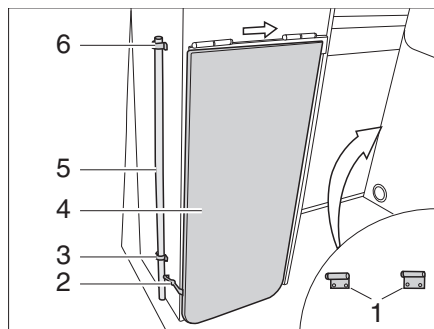
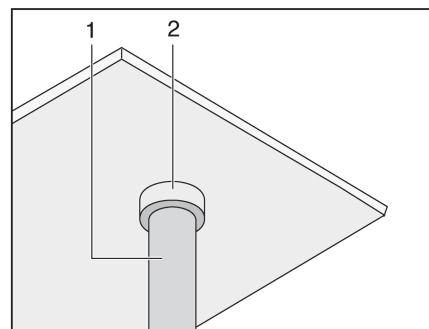

Fig. 42 Folding table, folded in
Fig. 43 Folding table, table leg holder
- Loosen the securing strap (Fig. 42,2) (snap fastener).
- Pull the table leg (Fig. 42,5) upwards out of the holders (Fig. 42,3).
- Fold the table-top (Fig. 42,4) upwards and insert the table leg (Fig. 43,1) into the holder (Fig. 43,2).
- Fold the table-top (Fig. 42,4) slightly upwards and slide to the back (Fig. 42, arrow).
- Slide the table-top into the holders on the rear of the kitchen unit (Fig. 42,1).
- Insert the table leg (Fig. 43,1) into the holder (Fig. 43,2).